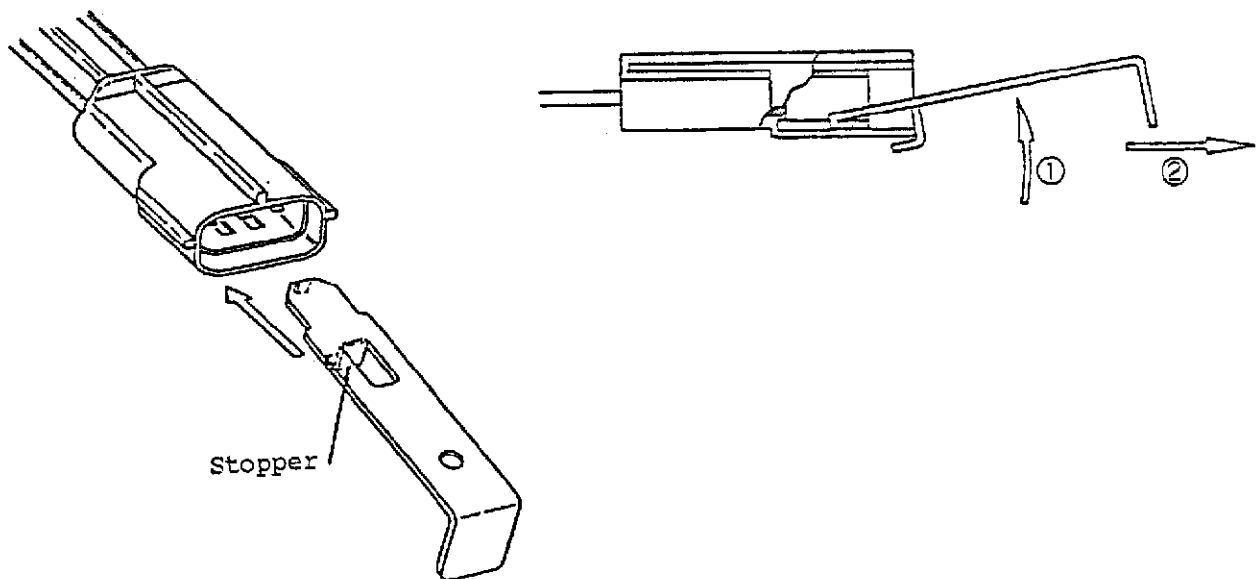

Fig. 8 Removal of Plate by Using Removal Jig.
- a When to remove plate from housing, use removal jig. First, insert the jig in the connector entry along the groove in the direction shown in Fig. 8, until it stops at the end, and remove it by pulling IS-375J, instruction sheet, attached to the product.
- (1) Do not reuse the double lock plate, after it is once removed.
- (2) In the situation where the plate is mounted, the contact cannot be inserted and extracted.
- (3) In extraction of the plate, be careful so as not to deform the tab and damage the housing surface.